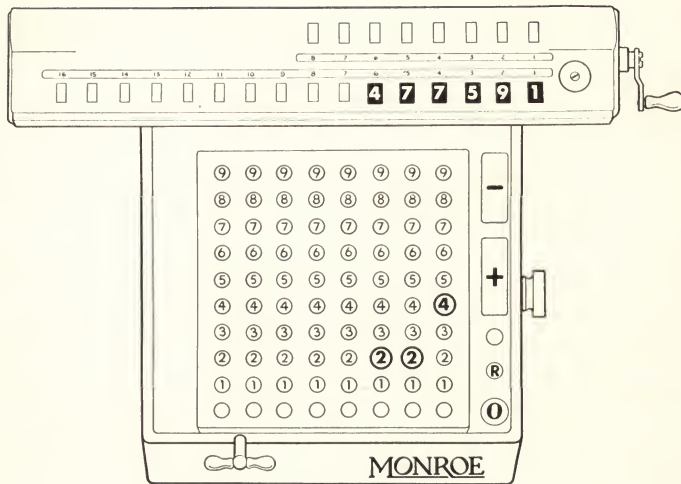

Figure 6
*Step 2*—Set the divisor, 224, on the right of the keyboard and move the carriage three spaces to the right so that the divisor, 224, is in direct alignment with the 477, the first three figures of the dividend. The machine at this point appears as indicated in Figure 6.